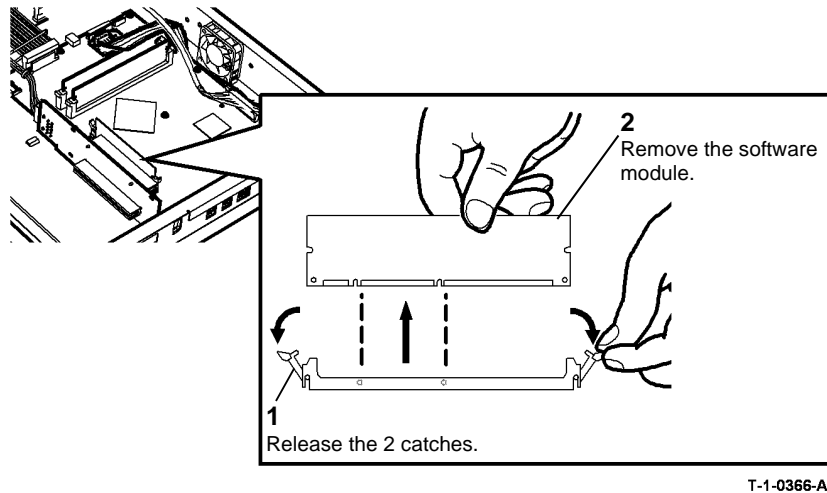

Figure 2 Software module removal
5. Remove the software module, Figure 2.
1. Install the new software module, refer to Figure 2. Press the ends of the module firmly downwards and the catches will return to their original positions.